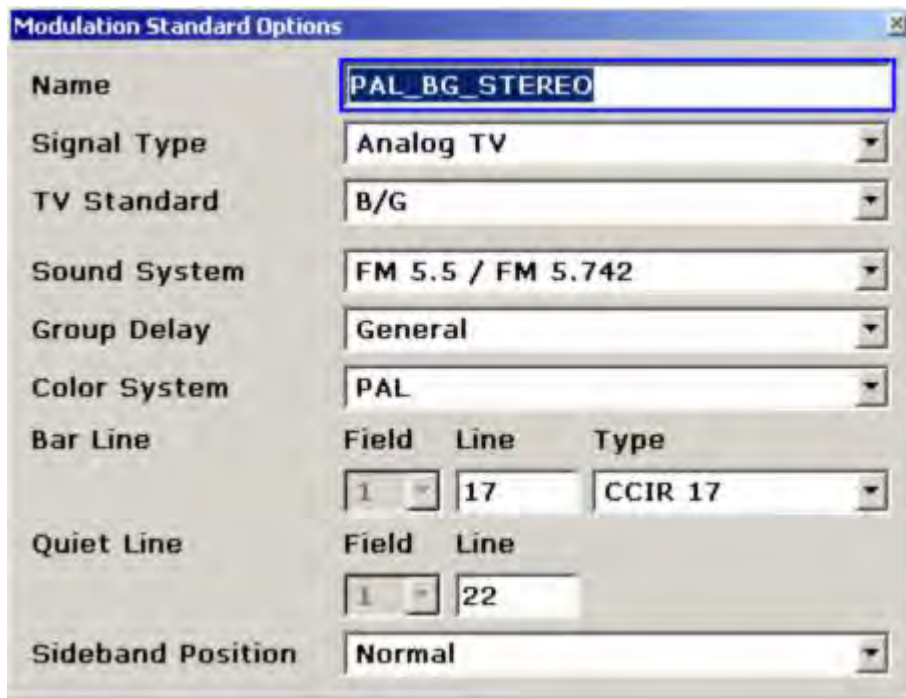

Fig. 2-51 Analog TV modulation standard PAL_BG_STEREO
The **Modulation Standard Options** dialog box appears (see for example Fig. 2-51).
- The **Modulation Standard Options** dialog box should now look as in Fig. 2-51.
The **Modulation Standard Options** dialog box is displayed (see for example Fig. 2-51).